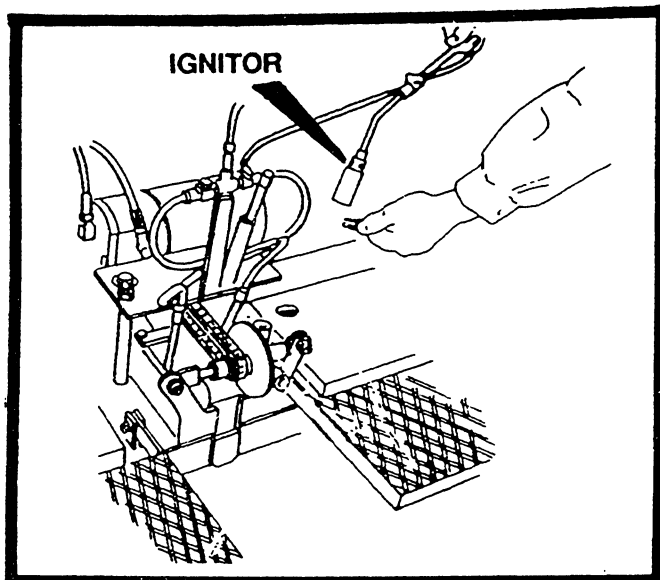

FIGURE 9
3. Light ignitor as you open the ignitor valve. See figure 9.